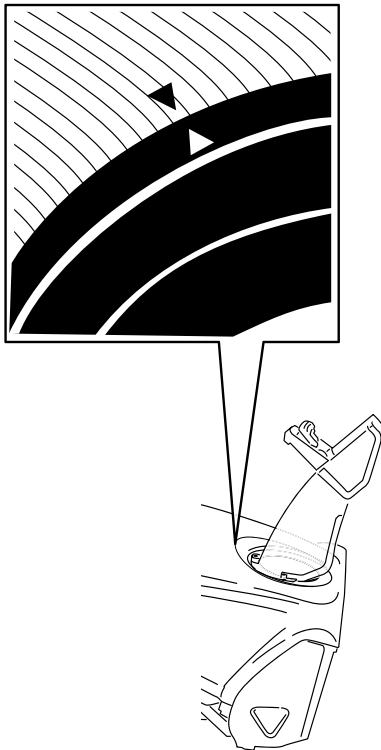

Figure 36
- Rotate the discharge chute so that it faces straight ahead and the arrow on the back of the discharge chute aligns with the arrow on the shroud (Figure 36).